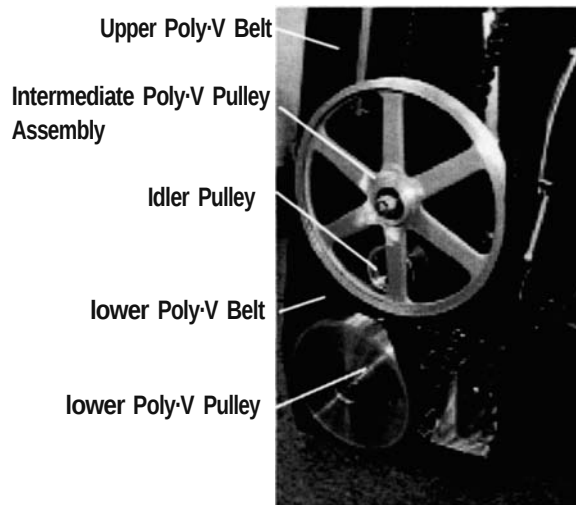

Figure 14: Belt Location
3. Remove the belt (see Figure 14).
2. Push the idler pulley away from the belt (see Figure 14) and remove the lower POLY-V belt. Install the new belt, and then reinstall the upper Poly-V belt. Verify proper tension on the upper belt (see Figure 22).
3. Remove the brake cam mounting screw and slide the cam off the brake motor shaft (see Figure 14).